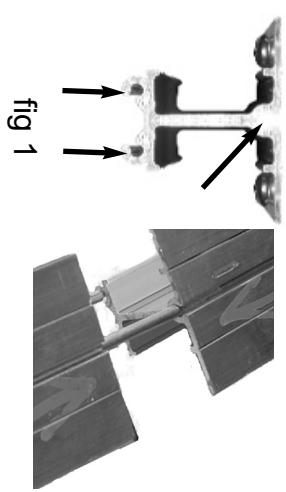

fig 1
Step 1: Align arrows; fit pins into pin slots (Fig1)